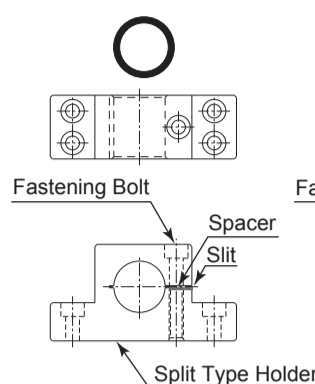
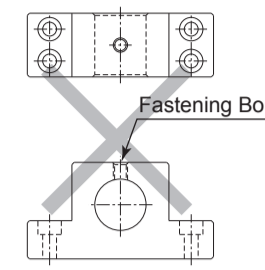
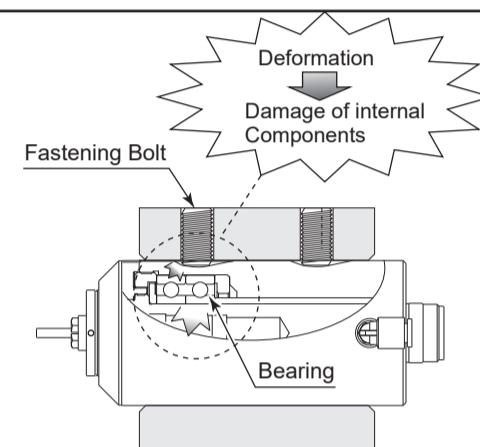

Fig. 10
Fig. 12
Fig. 13
- When installing a Spindle to the holder, recommended installation method is shown Fig. 10. Refer to "③ How to fabricate the Split Type Holder". If this is not possible, install as shown in Fig. 12.
Do not allow set screws to come directly in contact with the Spindle body as shown in Fig. 12, as this will result in damage to the Spindle housing and internal components. When installing, never clamp directly over the bearings, as this will result in bearing damage. (Refer to Fig. 13)